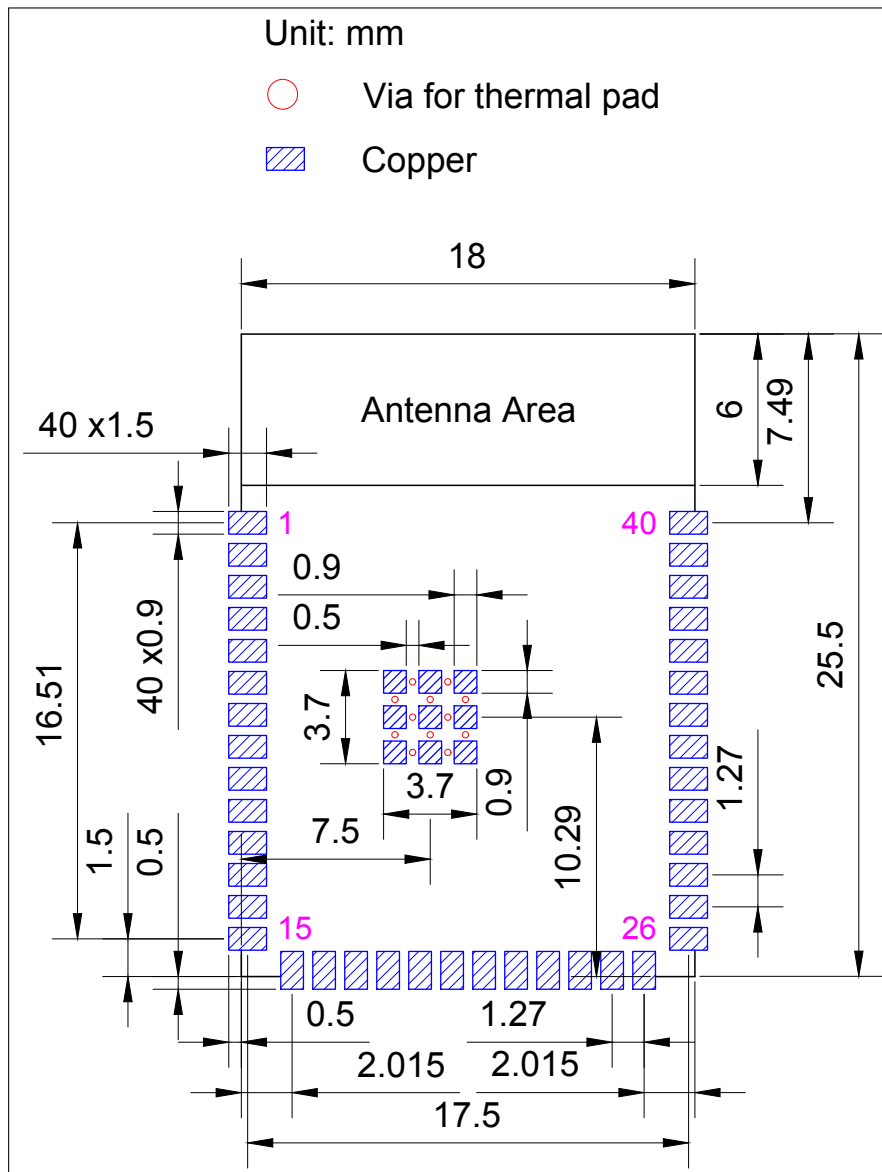
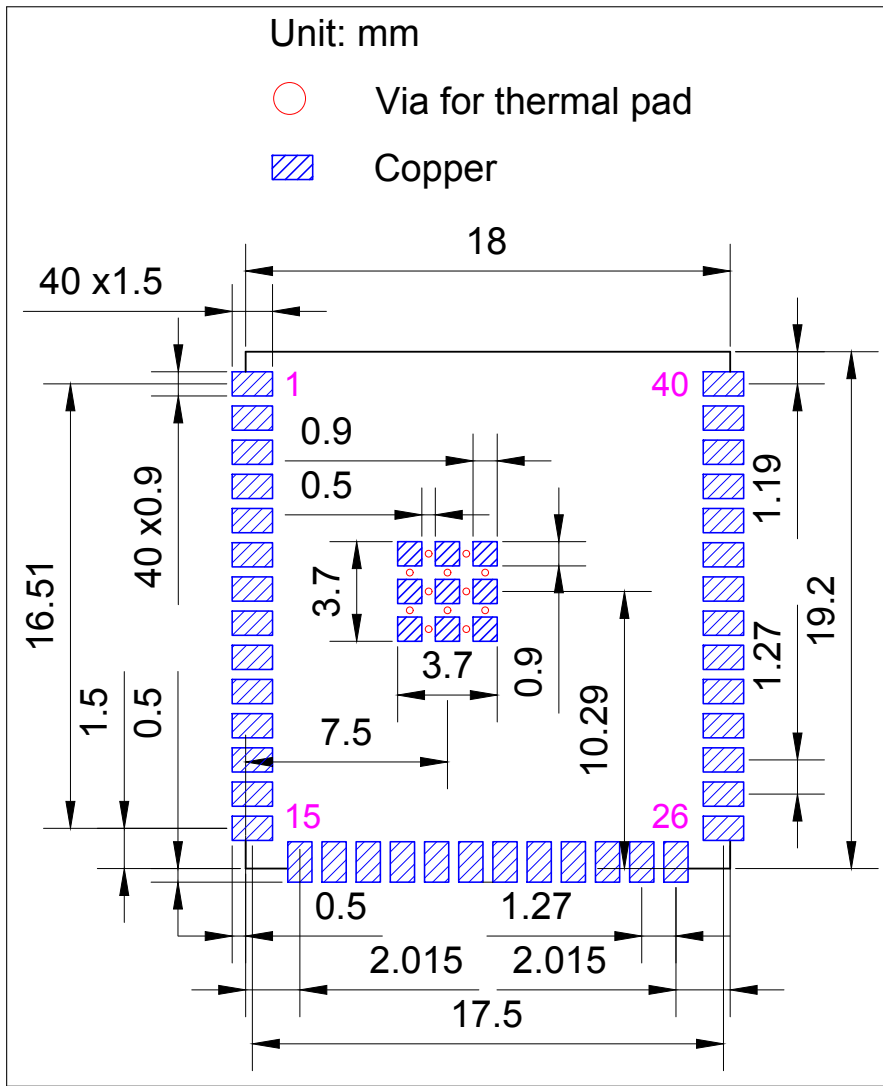

Figure 10: ESP32-S2-SOLO Recommended PCB Land Pattern
Figure 11: ESP32-S2-SOLO-U Recommended PCB Land Pattern
- Figures for recommended PCB land patterns with all the dimensions needed for PCB design. See Figure 10 *ESP32-S2-SOLO Recommended PCB Land Pattern* and Figure 11 *ESP32-S2-SOLO-U Recommended PCB Land Pattern*.
- Source files of recommended PCB land patterns to measure dimensions not covered in Figure 10. You can view the source files for ESP32-S2-SOLO and ESP32-S2-SOLO-U with Autodesk Viewer.